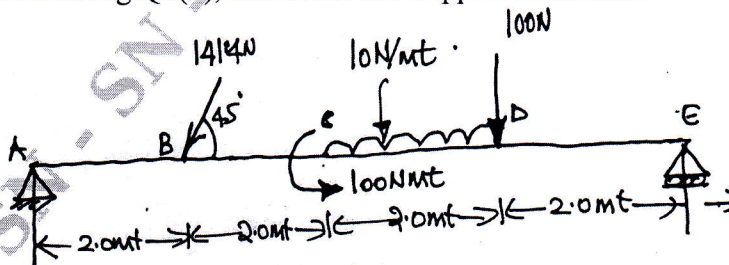

Fig.Q5(b)
b. For the beam shown in Fig.Q5(b), determine the Support Reactions.